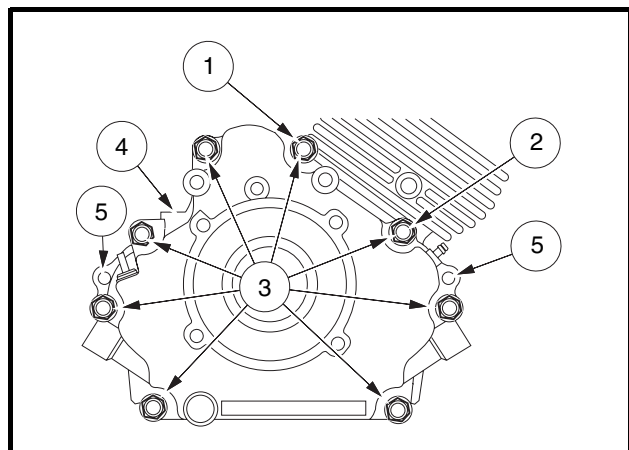

Figure 13-3 Crankcase Cover
2. Remove nuts and clamps at two-ended bolts (1 and 2) (**Figure 13-3, Page 13-5**).
3. Remove eight bolts (3) and remove the crankcase cover (4). See following NOTE.
NOTE: If the crankcase cover sticks, tap lightly with a plastic mallet on alternate sides near the dowel pins (5) (**Figure 13-3, Page 13-5**).